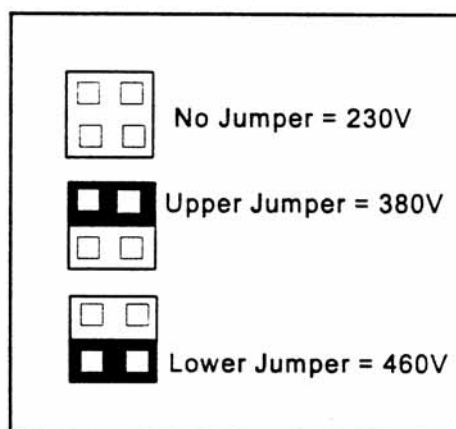

Figure 2-3. Voltage Jumpers
- For the Model X11/4/460A, turns ratios (TR) are selectable by a switch on the transformer rear panel.
- Control Input voltage selection must be jumpered at E12 on the HF2 Weld PCB as shown in Figure 2-3. E12 is located at the center of the PCB left edge.